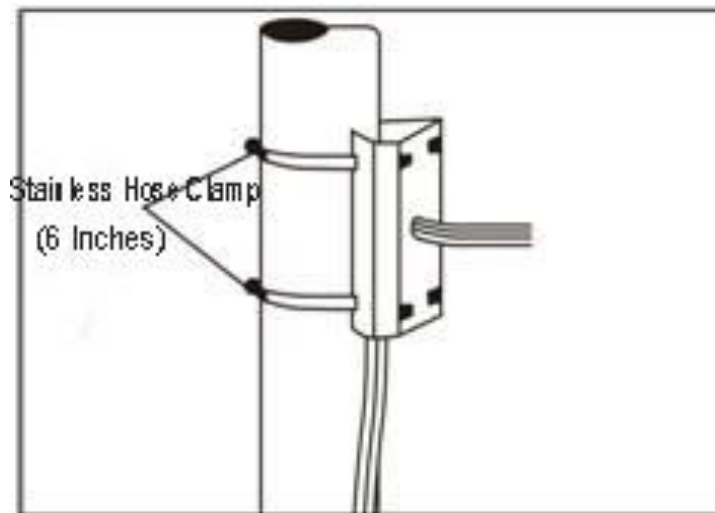

Fig 2.8
a. As shown in fig 2.8, use the stainless hose clamps to fix the pole mounted attachment with all cable through it on the pole structure.